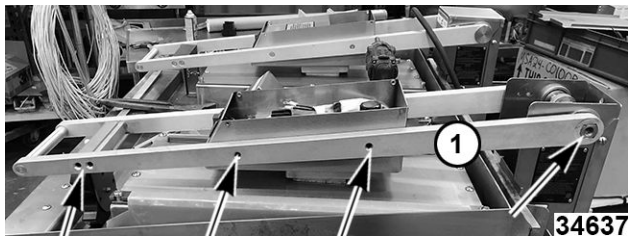

Fig. 24
9. Remove right-side arm (1, Fig. 24) mounting screws and retainer. Remove arm from unit.